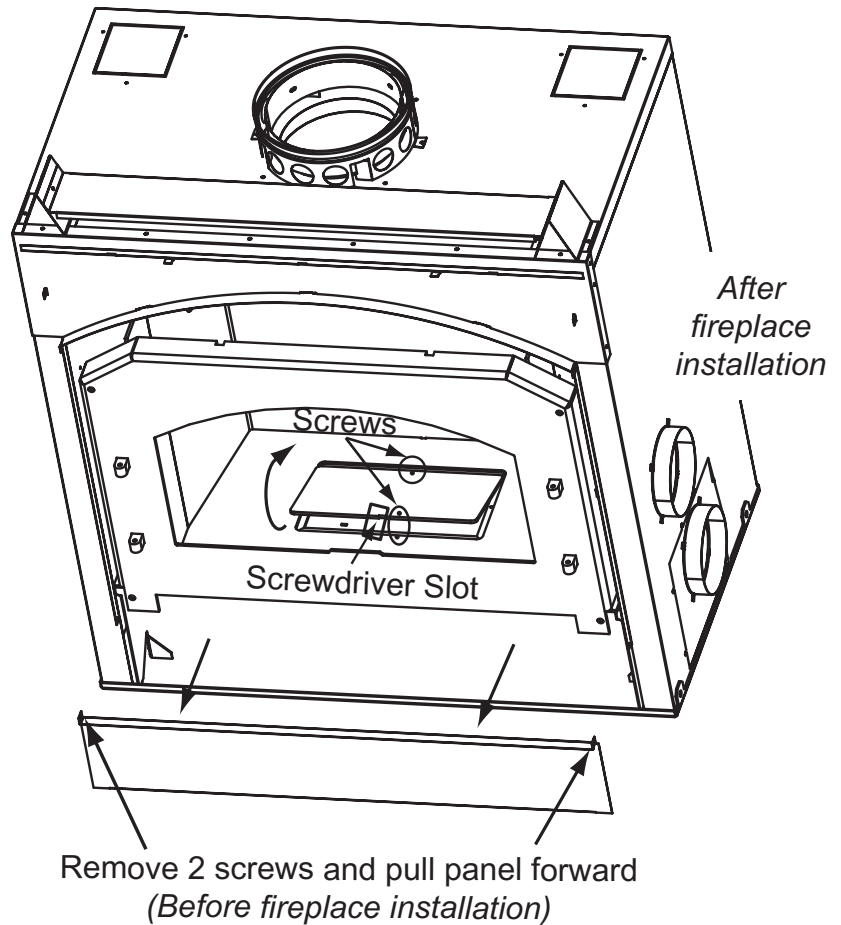

Figure 30A - Accessing Fan Motor
1. Remove the 2 screws located at the outside edge of the bottom panel as show in Figure 30A.